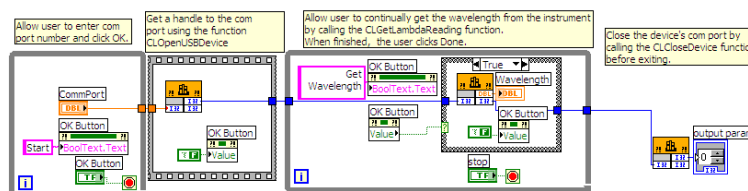

Figure 6.2: Sample getWavelength_v80.vi.
- 8 Repeat the steps to configure any other function calls needed and then wire the nodes together. The sample .vi getWavelength_v80.vi (Figure 6.2) opens the serial device based on the com port specified, and then gets the wavelength every time the user clicks on “Get Wavelength”.